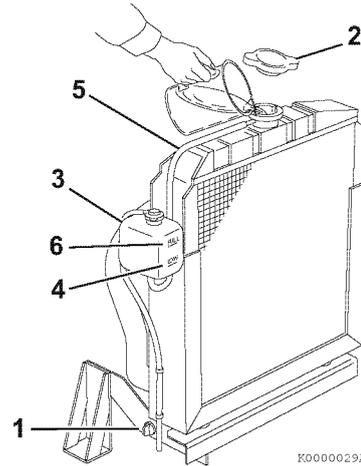
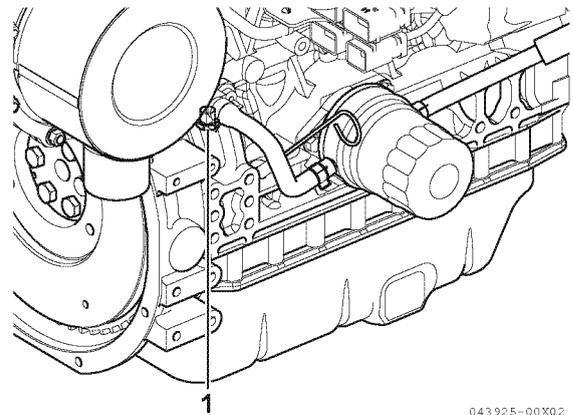

Figure 4-25
Figure 4-26
1. Check to be sure the radiator drain plug is installed and tightened or the drain valve (1, **Figure 4-25**) is closed. Also make sure the coolant hoses (1, **Figure 4-26**) are installed at the oil cooler.
2. Remove the radiator cap (2, **Figure 4-25**) by turning it counterclockwise about 1/3 of a turn.
4. Reinstall the radiator cap (2, **Figure 4-25**). Align the tabs on the back side of the radiator cap with the notches on the engine coolant filler port. Press down and turn the cap clockwise about 1/3 of a turn.
5. Remove the cap of the reserve tank (3, **Figure 4-25**), and fill it to the LOW (COLD) mark (4, **Figure 4-25**) with engine coolant. Reinstall the cap.
6. Check the hose (5, **Figure 4-25**) that connects the reserve tank (3, **Figure 4-25**) to the radiator. Be sure it is securely connected and there are no cracks or damage. If the hose is damaged, engine coolant will leak out instead of going into the reserve tank.
7. Run the engine until it reaches operating temperature. Check the level of engine coolant in the reserve tank. When the engine is running and the engine coolant is at normal temperature, the coolant level in the reserve tank should be at or near the FULL (HOT) mark (6, **Figure 4-25**). If the coolant is not at the FULL (HOT) mark, add coolant to the reserve tank to bring the coolant level to the FULL (HOT) mark.
1. Check the level of engine coolant in the reserve tank. When the engine is cold, the coolant level in the tank should be at or slightly above the LOW (COLD) mark (4, **Figure 4-25**) on the coolant reserve tank.
If the coolant level is at the FULL (HOT) mark (6, **Figure 4-25**) when the engine is cold, the coolant will expand when it becomes hot and possibly spray out of the overflow hose.